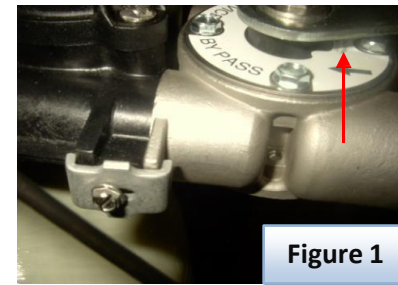

Figure 1
2. The unit will be marked either on the back of the valve body itself with the word “In” and “out” or the top of the body of the bypass valve assembly will have arrows showing the direction of water flow. “OUT” is the water entering your house after it passes through the water softener. Shown in Figures 1 and 2 below. **PLEASE be careful to follow these correctly, making sure you plumb the system in the right direction otherwise you will lose the resin out of your tank into your house lines!**